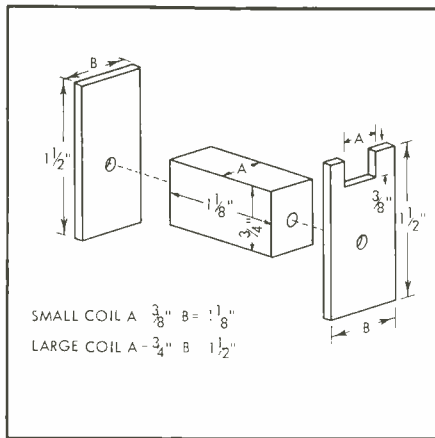

Fig. 15. Mandrel parts for winding iron-cored coils.
To wind the coils for these inductors, a rectangular mandrel and end flanges will be needed (Fig. 15). To facilitate removing the coil from the mandrel when winding is complete, a few wraps of paper should be put round the center of the mandrel, as shown in (A) of Fig. 16, followed by tie-in tapes, shown in (B), and a wrap of adhesive tape, the width of the coil, 1 1/8-in., to secure them. After the coil is wound, with care not to allow the wire to protrude above the flange sides on the sides where it will pass through the core window, these tie-in tapes are pulled across the top of the coil and stuck down with another wrap of adhesive tape, to finish the coil before it is removed from the mandrel.